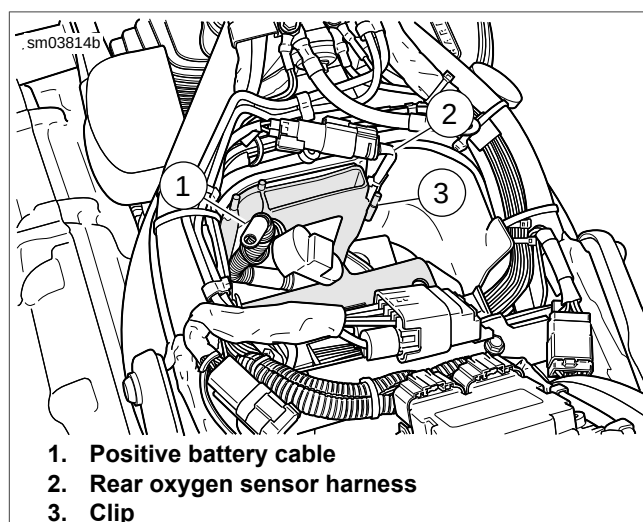

Figure 7-24. Battery Caddy Wire Routing
4. See Figure 7-24. Install positive battery cable (1) into clip (3) in caddy.
5. Route rear oxygen sensor harness (2) through clip (3).